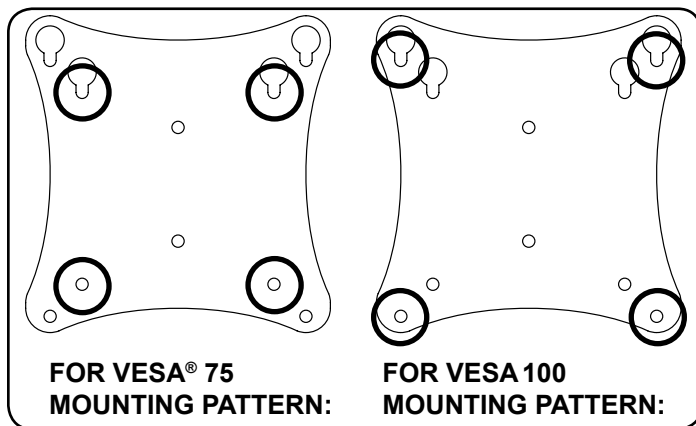

fig. 2.1
**2** Insert two M4 x 12 mm screws (**A**) into top two holes of screen, leaving approximately .25" (6 mm) of exposed thread. Hook screws onto keyslots of adapter plate as indicated in figures 2.1 and 2.2.